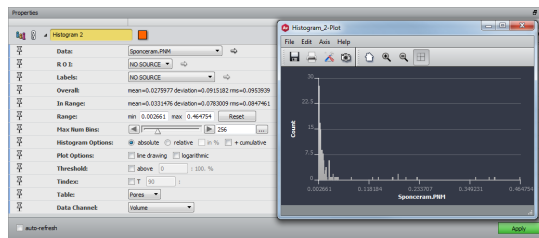

Figure 18.17: Pore Volume Histogram
5. The generated PNM can be used to plot the statistics of the pore space (see Figures 18.17 and 18.18).